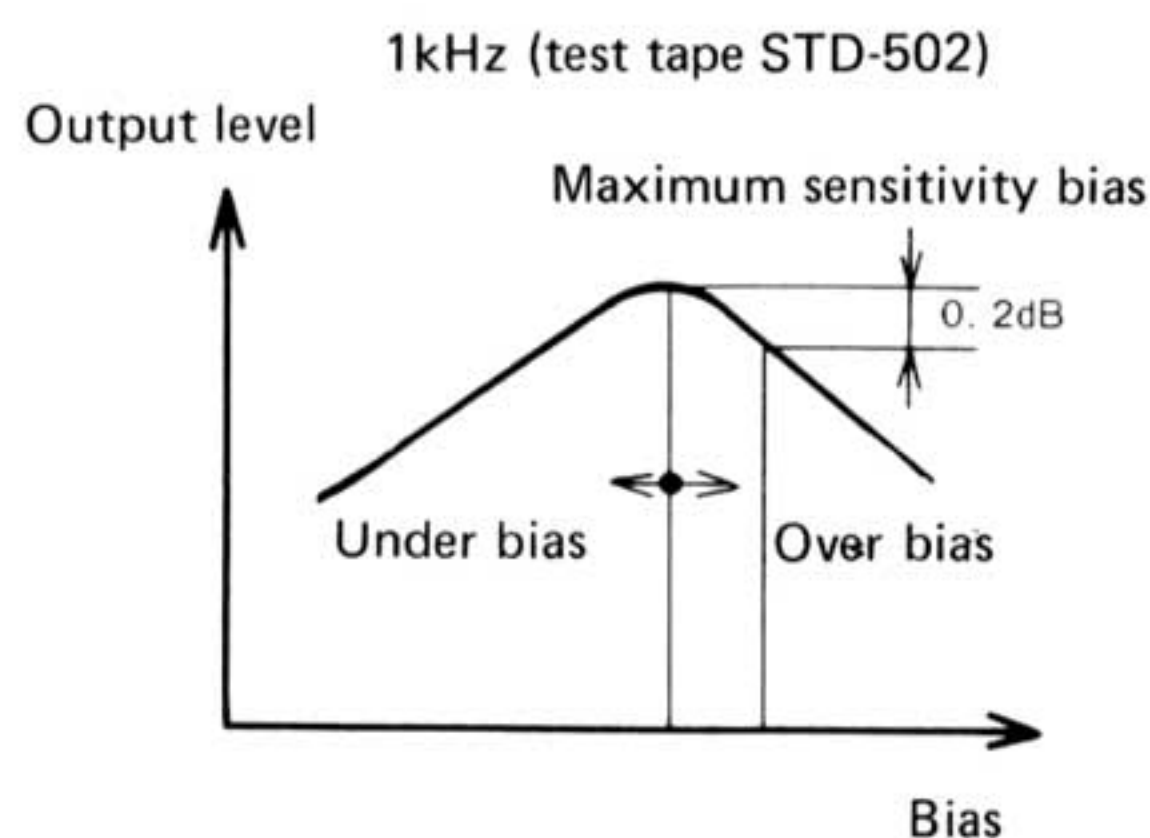

Fig. 36
3. While simultaneously recording and playing back with test tape STD-502, turn the bias adjustment semifixed resistor VR₃₀₃ (L ch), VR₃₀₄ (R ch) clockwise from minimum value to maximum value and adjust to the point at which the playback level drops 0.2dB past the maximum value (Fig. 36).
4. Since the adjustments of item 3 effect each other, repeat adjustment several times.